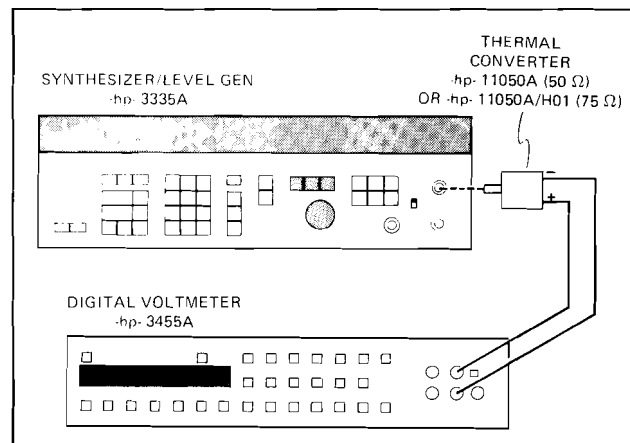
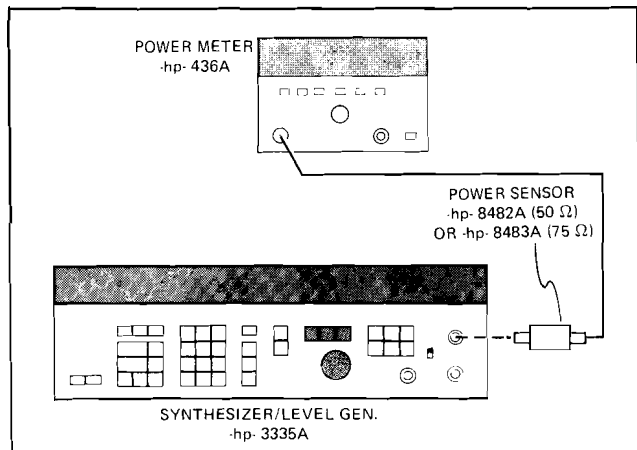

Figure 4-5. Flatness Test (200 Hz to 10 MHz).
Figure 4-6. Flatness Test (10 MHz to 80 MHz).
a. Connect the test set-up as shown in Figure 4-5.
k. Disconnect the test set-up of Figure 4-5 and connect the test set-up shown in Figure 4-6.